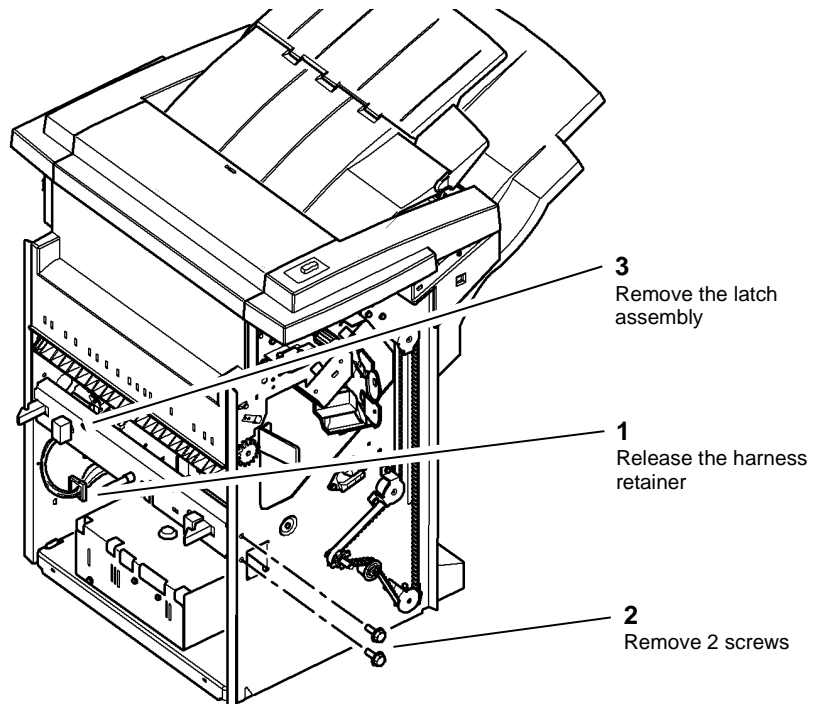

Figure 2 Latch assembly removal
3. Remove the docking latch assembly, Figure 2.